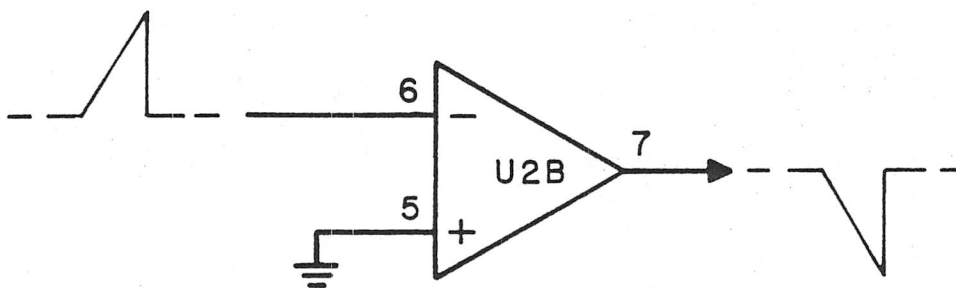

Figure 3-9. Inverting Voltage Generator, U2B
3.2.6.4 Inverting Voltage Generator (Figure 3-9)